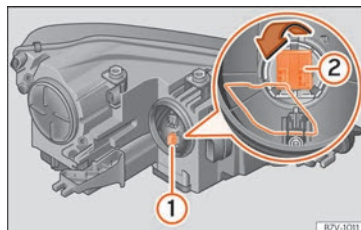

Fig. 65 Turn signal bulb holder **①** and turning light **②**.
- Rotate the bulb holder  **Fig. 65** ① all the way to the left and pull it out backwards together with the bulb.
- Press the wire clip downwards and pull the bulb holder ②  **Fig. 65** out together with the bulb.